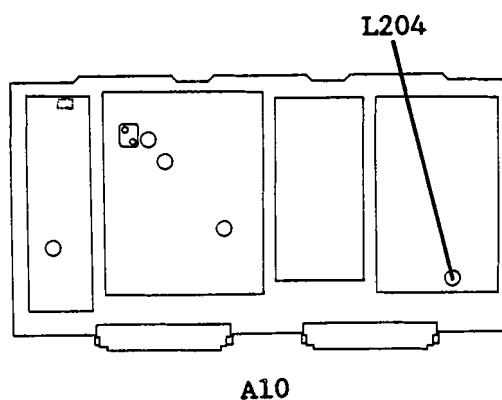

Figure 3-45. 160 MHz Spurious Rejection Adjustment Locations
4. Adjust A10L204 (160MHz NULL ADJ) until the 160 MHz signal level is minimum. See Figure 3-45 for the location of A10L204.